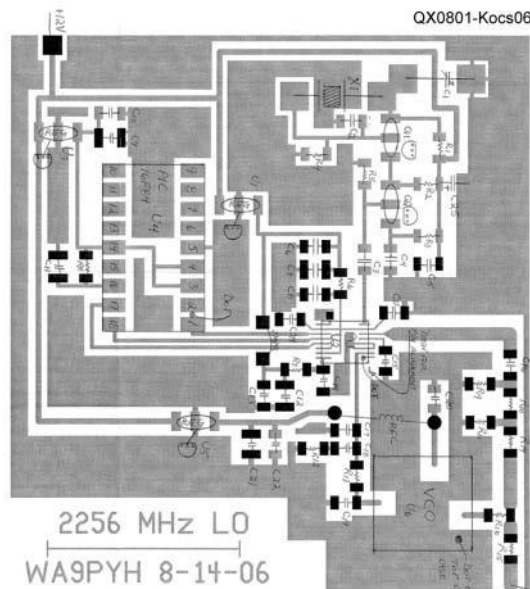

Figure 6 — This parts-placement diagram shows the location and orientation of the various components. All of the components use surface mount.
3) Install the jumper wire that crosses over the three traces that go between the PLL and PIC. See Figure 6.
5) Install all resistors and capacitors except those near the VCO (R9-16, C17-22 and the RF choke). (Note that there are no pads for C25 but its location is shown in Figure 6. It was added after I noticed that I had failed to include a large valued filter capacitor on the +12 V input to the crystal reference oscillator. Adding it reduced the noise spectrum outside the loop bandwidth by 6 dB.)
8) Install each regulator by first bending $\frac{1}{8}$ inch of all three leads forward, then solder only the input and ground leads (the right and center leads when looking at the flat side). Their orientation is shown in Figure 6. Power up the board and verify that 5 V appears at each unconnected output lead. (I installed the regulators backwards and fried the PLL and a wide-range VCO — that was a very expensive and time-consuming mistake.) Once you’ve verified that 5 V dc appears at the three output leads, solder those leads in place.
9) Install the two FETs. Their orientation is also shown in Figure 6. Note that they face opposite directions.